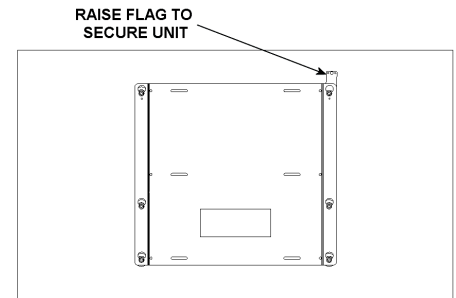

Figure 5
5. Raise safety latch to secure plasma in place (See Figure 5).